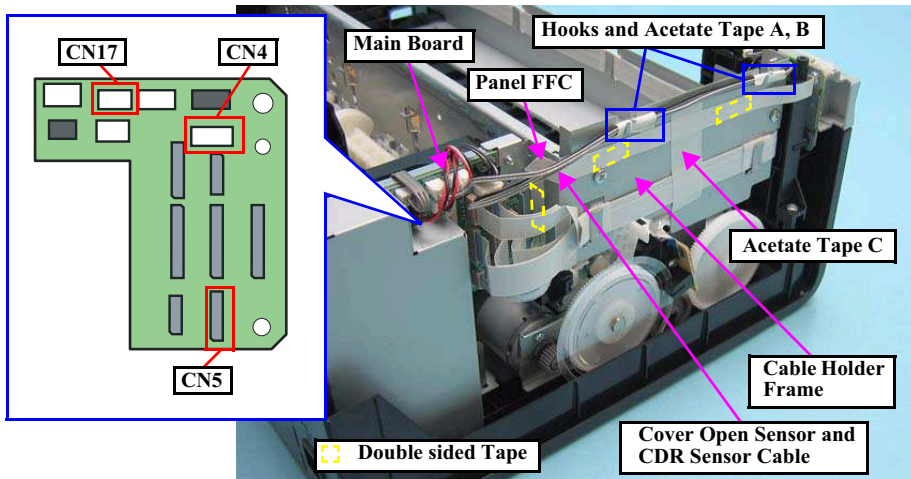

Figure 4-23. Removing the Panel Assy (1)
2. Peel off the double-sided tape that secures the Panel FFC to the Holder Frame and release the Panel FFC. (Fig.4-23 (p.64))